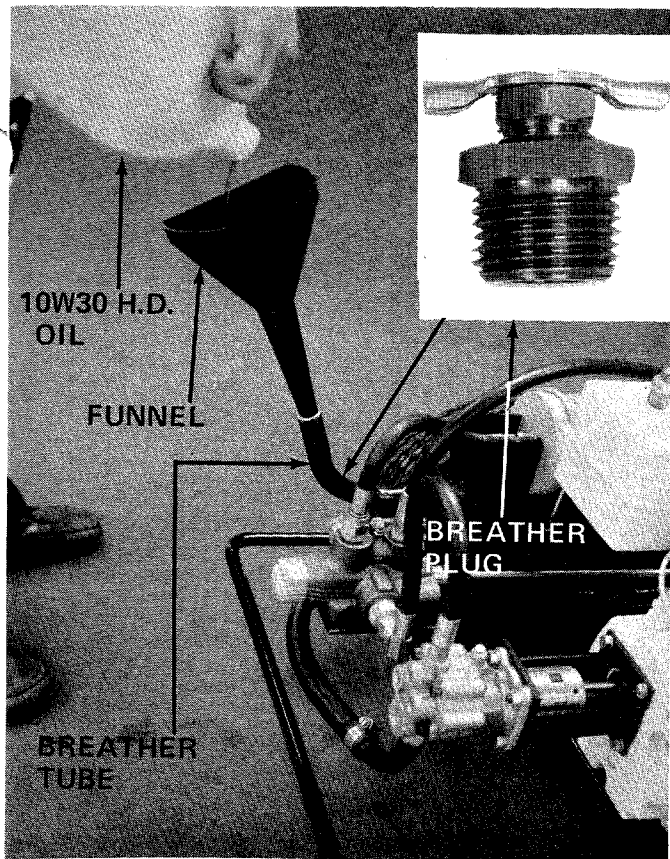
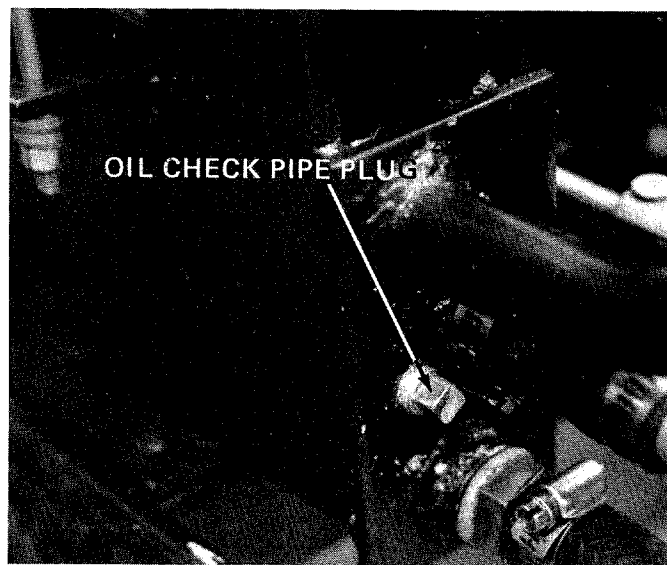

FIGURE 16
FIGURE 29
5. Remove the breather plug from breather tube. See figure 16. Pour 2-1/2 gallons of 10W30 H.D. oil **ONLY** into breather tube.
Check oil in log splitter reservoir before every use. See figure 29.
2. Remove check pipe plug in rear of beam. See figure 29. If oil starts to come out of check pipe plug hole oil level is correct. IF NOT add oil to breather tube (figure 16) unit oil starts out.